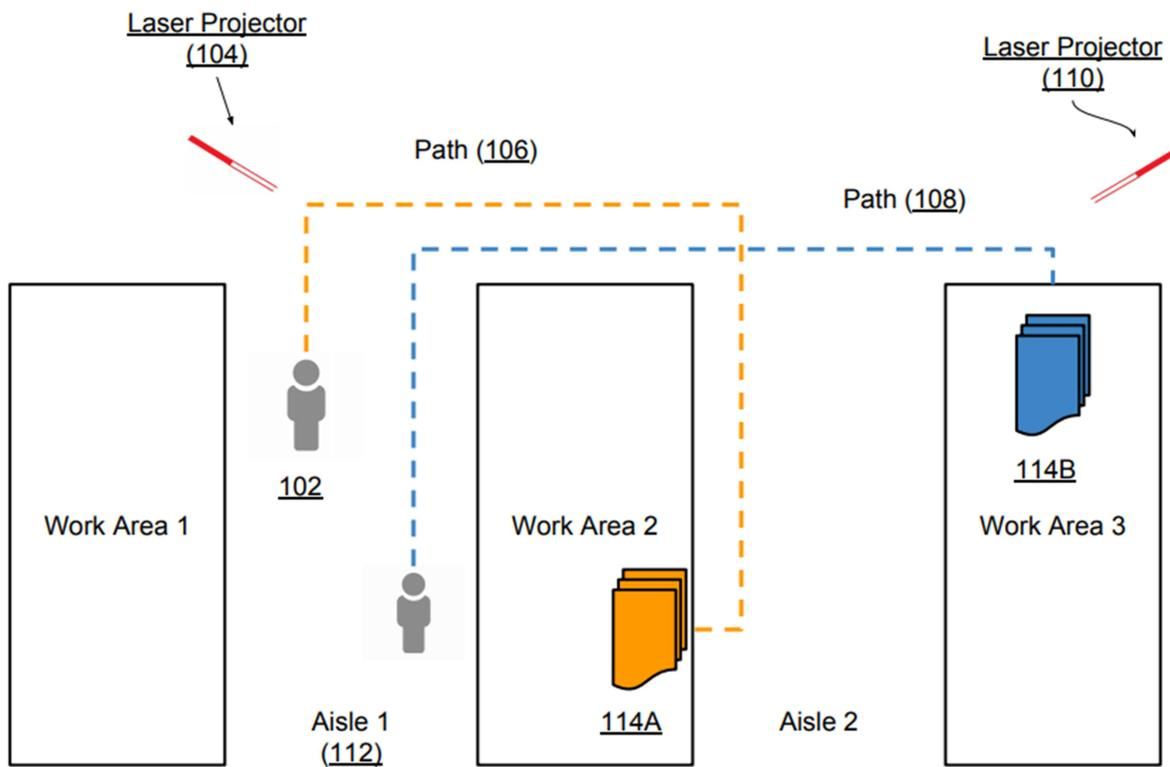

Fig. 1: Projected visual indications of a user's work path
Fig. 1 illustrates a simplified example path lighting, per the techniques of this disclosure. Ceiling-mounted laser projectors (104, 110) project bright visuals that illustrate paths for workers. A user (102), currently in aisle 1 (112), follows the projected path in orange (106) to their work point (114A) in aisle 2. Similarly, another user has a blue path (108) projected that guides them to their next work point (114B).